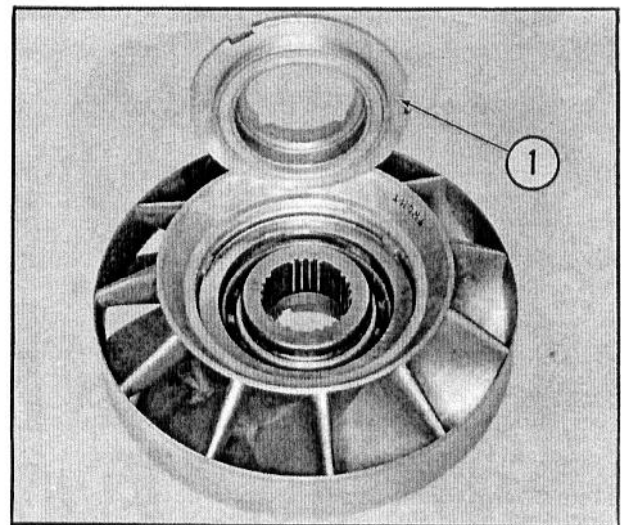

Fig. 15 — Installing Stator Thrust Washer
9. Install the remaining stator thrust washer, with the counterbored side down, and secure with the retaining snap ring. See Figs. 15 and 16.